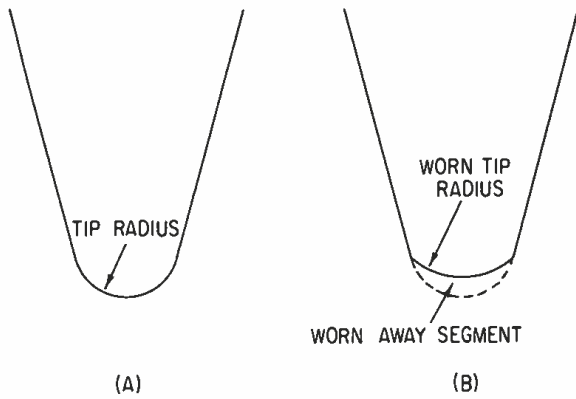

Figure 9. Stylus wear and tip radius. At (A) is an unworn stylus. At (B) the change of radius due to wear is clearly seen.
The effect of a worn playback stylus can now be related to tracing distortion. FIGURE 9(A) shows a normal unworn stylus viewed 45° to the recorded surface (same view as in FIGURE 1). FIGURE 9(B) shows the same tip after it has been worn. The stylus now appears to have a larger radius and the ratio $\frac{R_s}{R_g}$ for any set of recorded conditions will be larger, and the distortion proportionally greater. To give the reader some feeling for the magnitudes involved, we list three sets of conditions for $\frac{R_s}{R_g} = 1$, and where second harmonic distortion